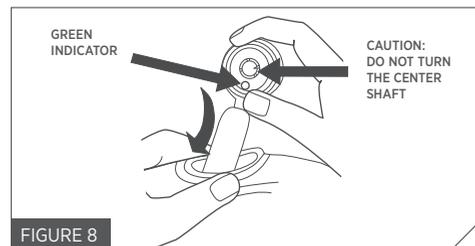
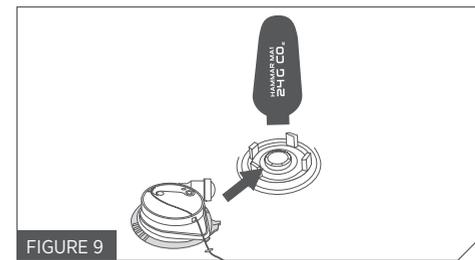

FIGURE 8
FIGURE 9
6. Check that the new inflator body indicator is green. Insert the black inflator body and cylinder into the bladder (Fig. 8). Align the cylinder with the outline printed on the bladder (Fig. 9). Ensure that the inflator body is evenly contacting the sealing ring.